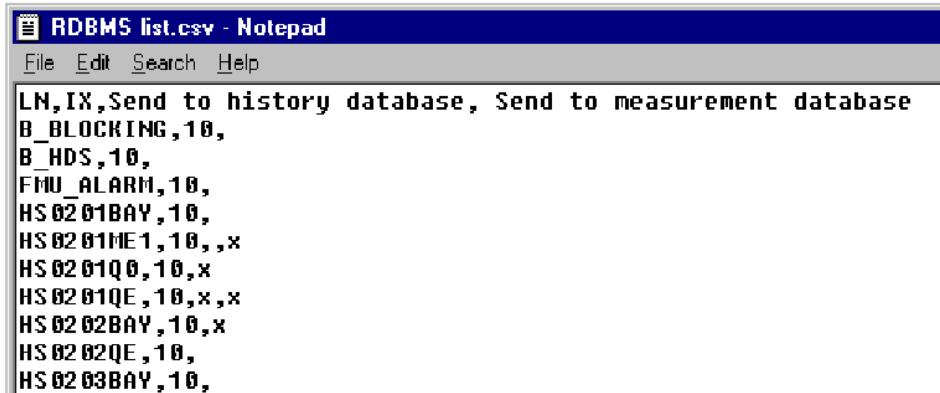

Figure 44: Save the workbook in CSV format
3. Answer **Yes** if asked whether to keep the workbook in this format, see Figure 44.